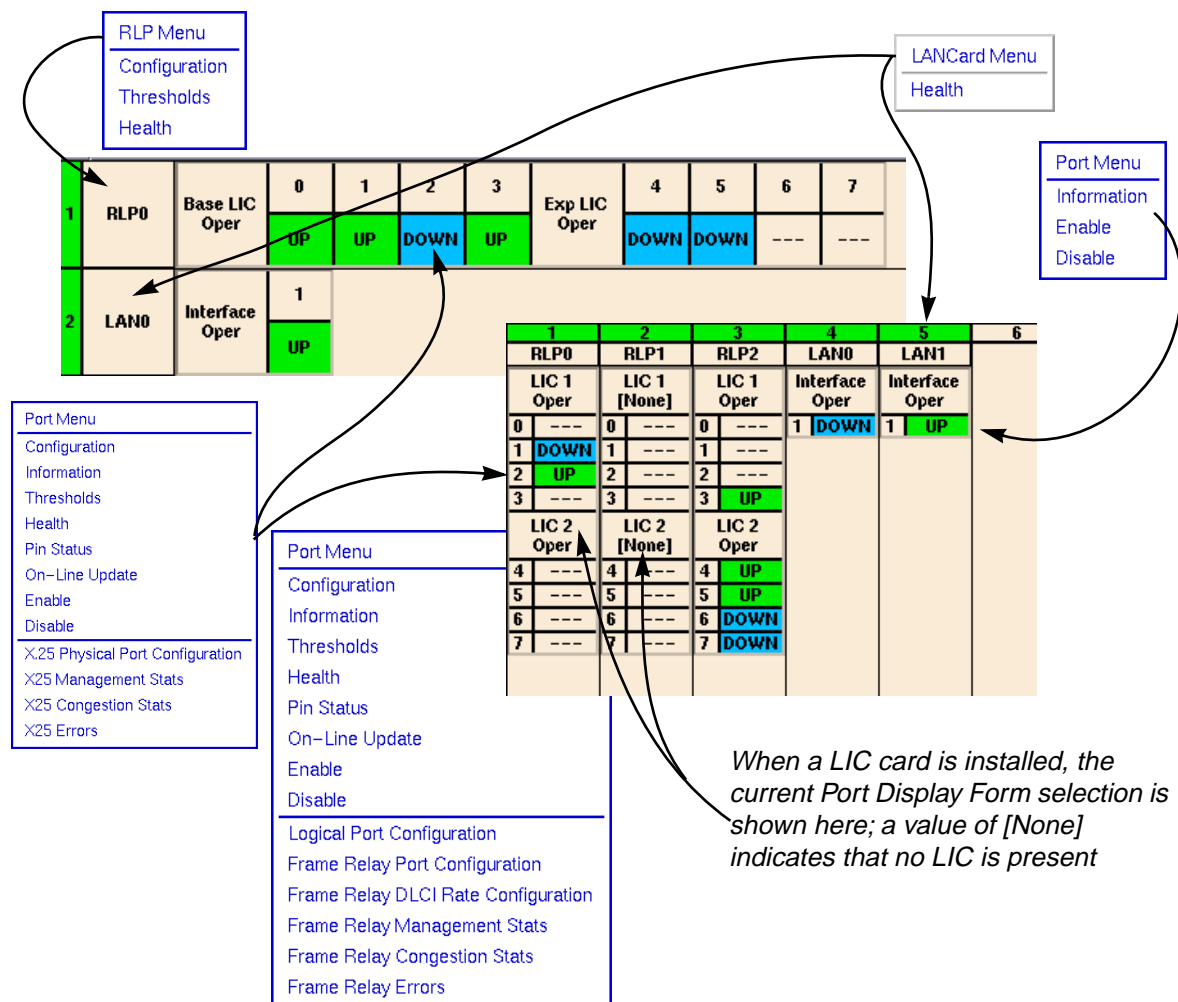

Figure 2-3. Mousing Around a Module Display
2. Drag down to Port Display Form, then to the side as necessary to select one of the port display options. The current selection will be displayed in the LIC name box (for RLPs) or the Interface box (for LAN cards; see Figure 2-3, page 2-6).